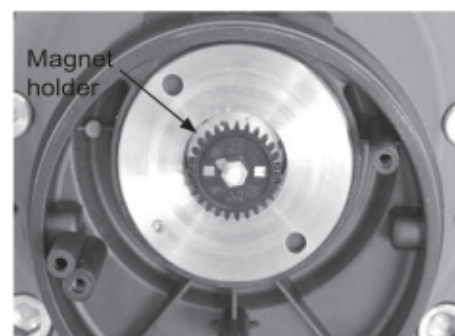

Figure 21. Magnet holder
- iii) Remove the magnet holder assembly from the meter [Figure 21],